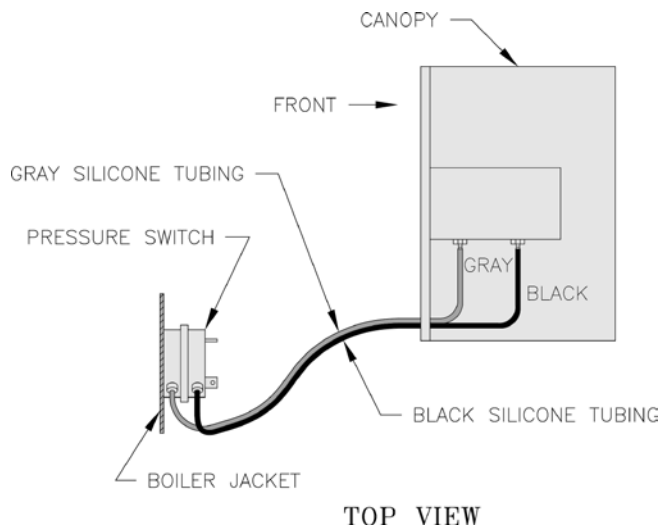

Figure 28: Silicone Tubing Assembly
12. Connect Silicone Tubing between Pressure Fittings on Canopy Assembly and Pressure Switch. Route through bushings in Vestibule Panel . See Figure 28.
- Stop boiler, remove manometer and reconnect hoses to differential pressure switch. See Figures 28 and 31.